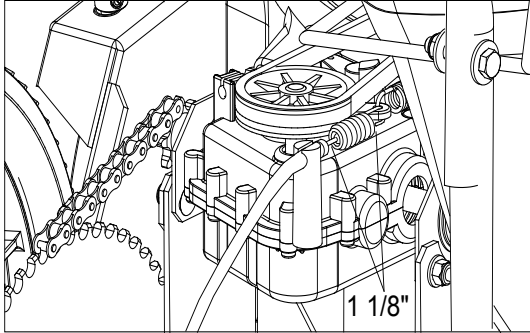

Fig. 18
9. Measure the amount of spring stretch. Spring should measure 1 1/8" when engaged (Lever 4" from handle). (See Fig. 18 next page.)